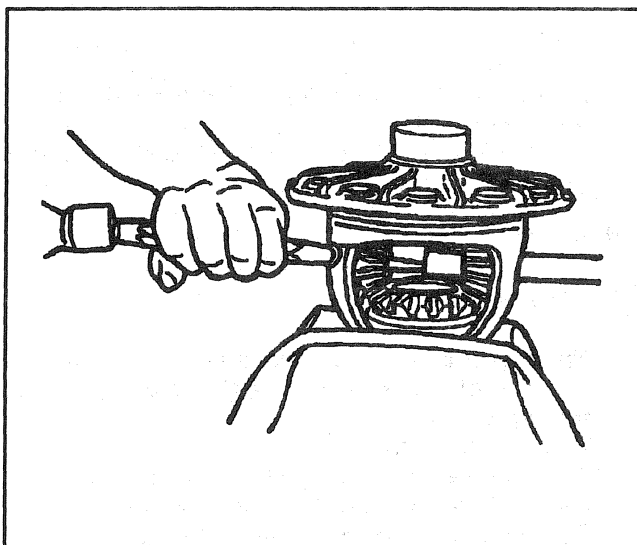

Figure 7—Removing the Pinion Shaft
14. Pinion shaft using a hammer and brass drift (Figure 7).